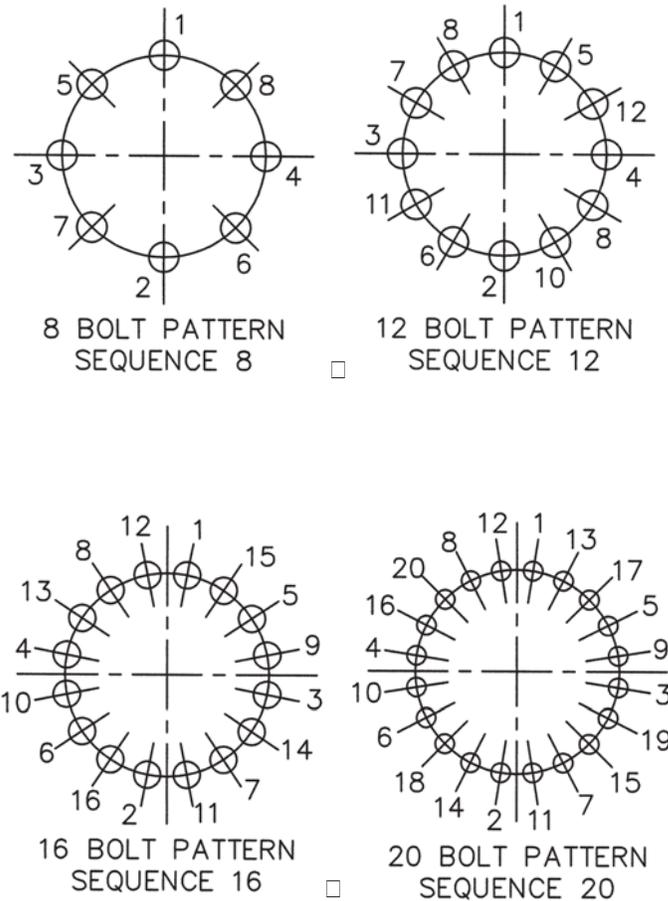

FIGURE 3 Bolt Tightening Sequence
7. Tighten the body stud nuts to the proper torque listed in Table 1 using the tightening sequence in Figure 3.